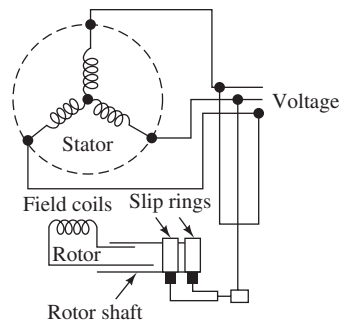

FIGURE 13.44 Circuit of an AC generator.
remaining three are used as outputs. Output terminal voltage is tapped as shown in Figure 13.44. Each of the three windings are called a *phase* and the emf generated in each is called *emf per phase*, E_{ph} . All the emfs generated should be added together.
- When a number of turns are grouped together, a *coil* is formed (e.g., the field coil shown in Figure 13.44).